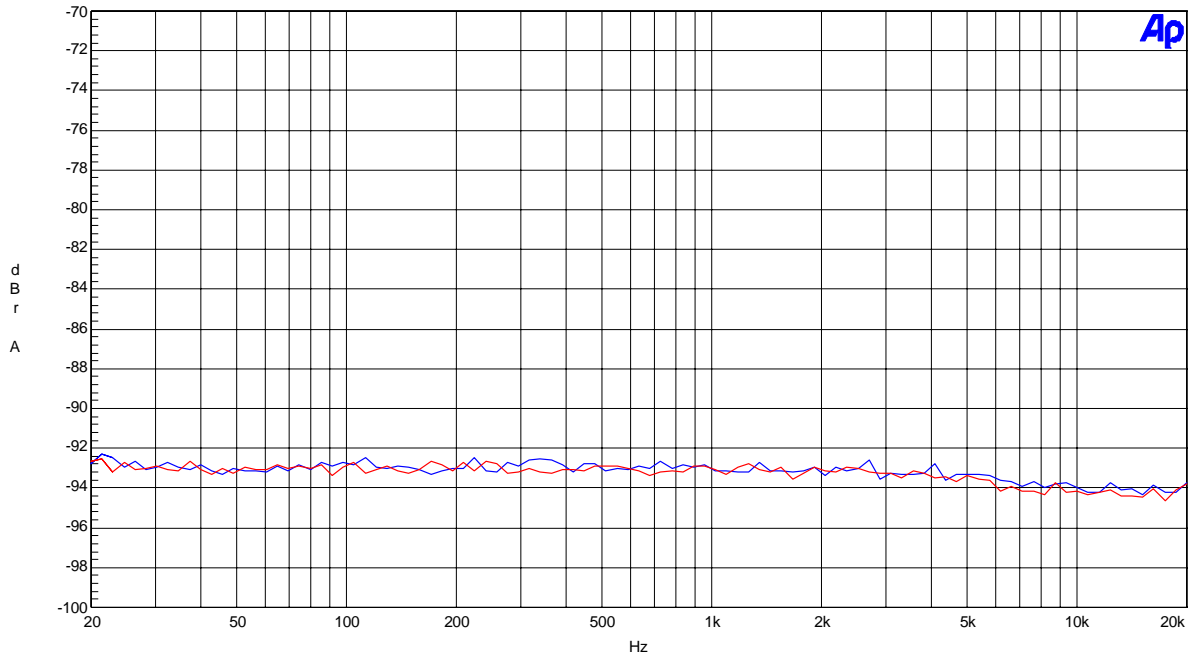

Figure1-5. THD+N vs. Input Frequency (Input level=0dBV)
- Figure 1-5. THD+N vs. fin (Input Level=0dBFS)